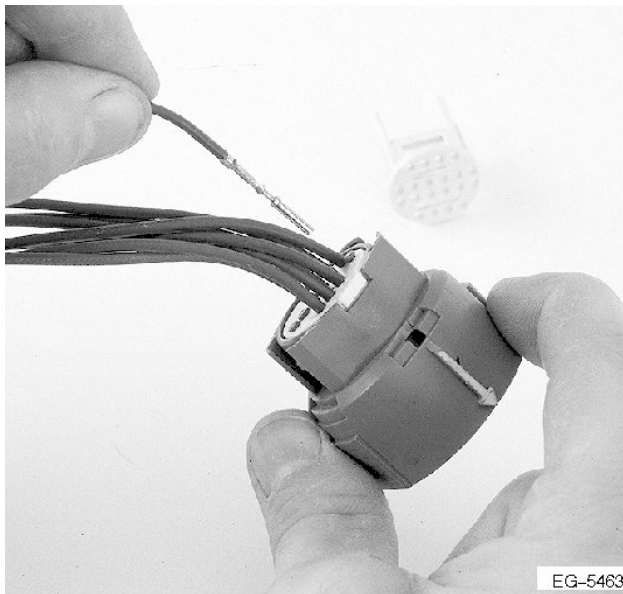

Figure 280 Remove Wire From Rear of Connector
3. Pull the wire and terminal out of the connector body and through the insulator on the rear of the connector (See Figure 280, page 446).